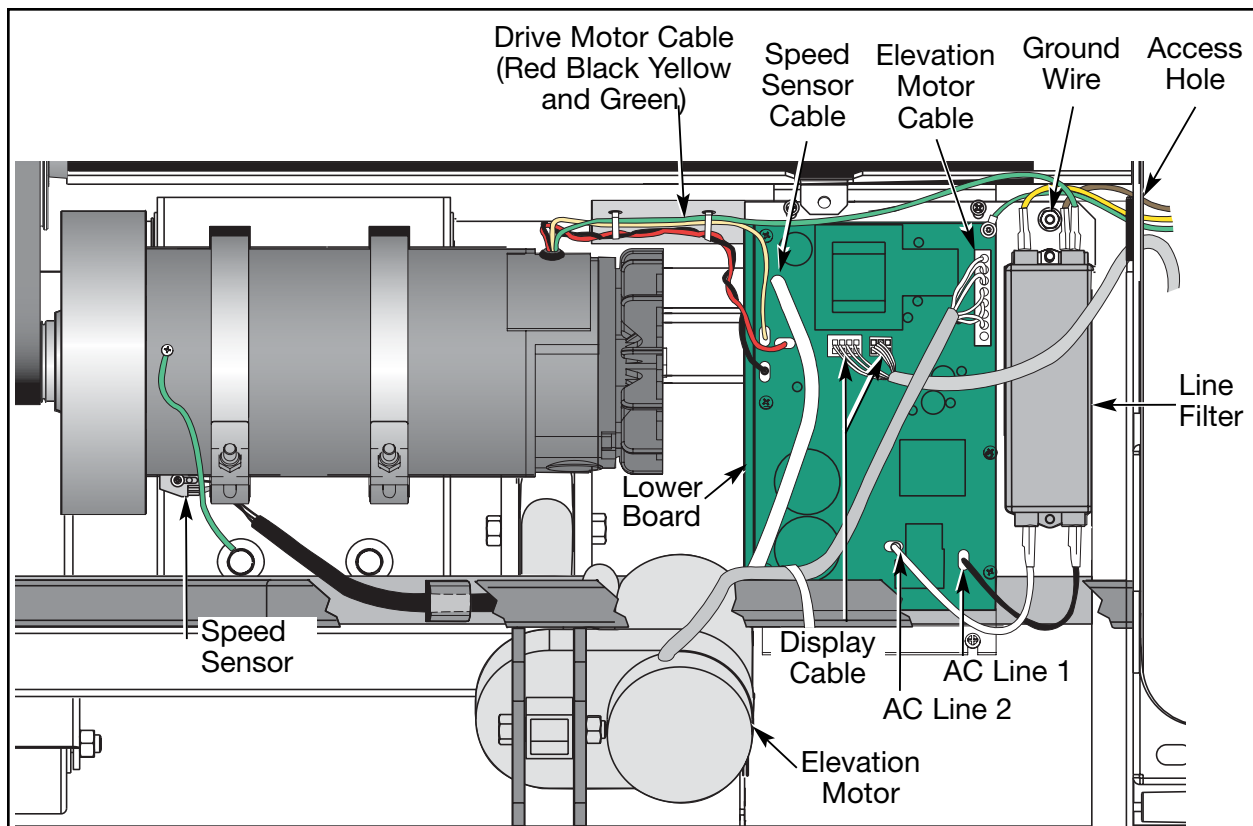

Figure 21
- A. Connect the cables to the lower control board. This includes: the elevation motor cable; display cable (P1 and P2); AC line 1 (black); AC line 2 (white); drive motor (black, red, yellow) and speed sensor cable. See Figure 21.